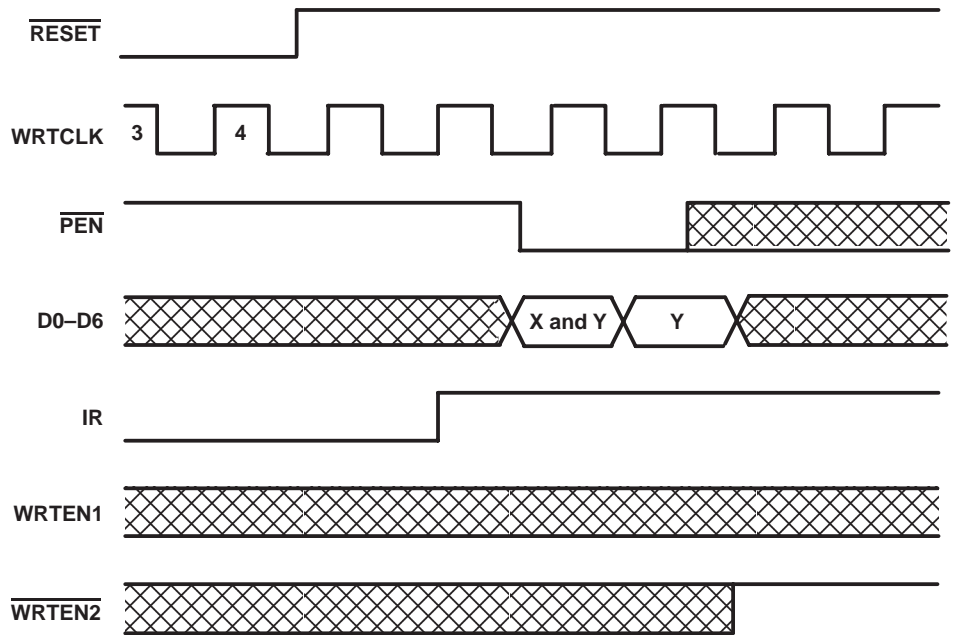

Figure 4. Programming X and Y Separately
Program enable ( $\overline{\text{PEN}}$ ) should be held high throughout the reset cycle.  $\overline{\text{PEN}}$  can be brought low only when IR is high and WRTCLK is low. On the following low-to-high transition of WRTCLK, the binary value on D0–D6 is stored as the almost-empty offset value (X) and the almost-full offset value (Y). Holding  $\overline{\text{PEN}}$  low for another low-to-high transition of WRTCLK reprograms Y to the binary value on D0–D6 at the time of the second WRTCLK low-to-high transition. When the offsets are being programmed, writes to the FIFO memory are disabled regardless of the state of the write enables (WRTEN1, WRTEN2). A maximum value of 127 can be programmed for either X or Y (see Figure 4). To use the default values of X = Y = 32,  $\overline{\text{PEN}}$  must be held high.